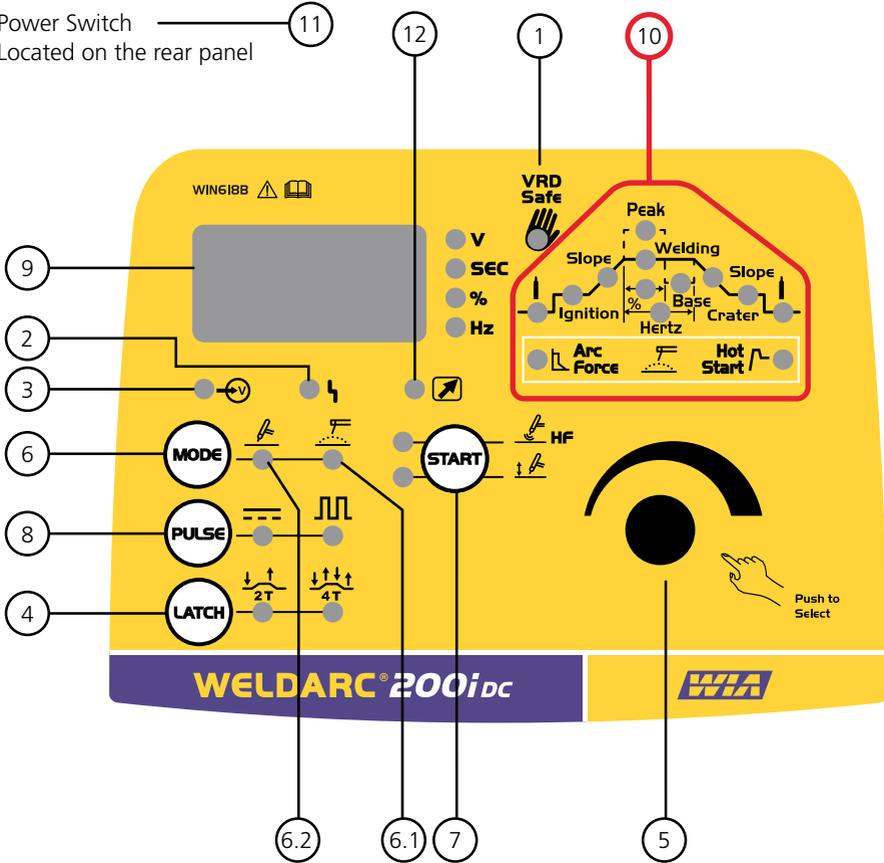

Fig 1 Weldarc 200i DC Controls
Adjust to the desired maximum current (such as 150A) on the machine with the control knob FIG 1 (5). The AMPS digital display will then show 150A.